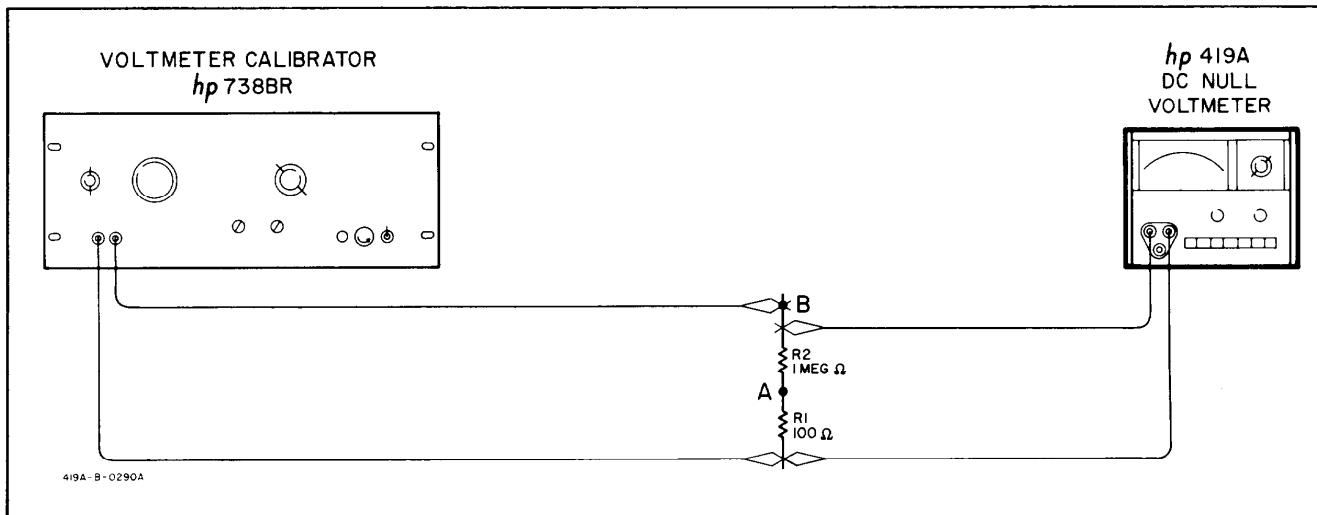

Figure 5-1. Voltmeter Accuracy Performance Test Setup
5-8. The voltmeter accuracy performance test setup is illustrated in Figure 5-1. A voltmeter calibrator (-hp- Model 1738BR), a 100 Ω resistor (-hp- Part No. 0811-0398), and a 1 M Ω resistor (-hp- Part No. 0811-0473) are required for this test.
- a. Connect test setup illustrated in Figure 5-1.
- Construct test setup illustrated in Figure 5-1; turn voltmeter calibrator dc output off and set for 30 mV output; connect 419A + INPUT terminal to Point A.